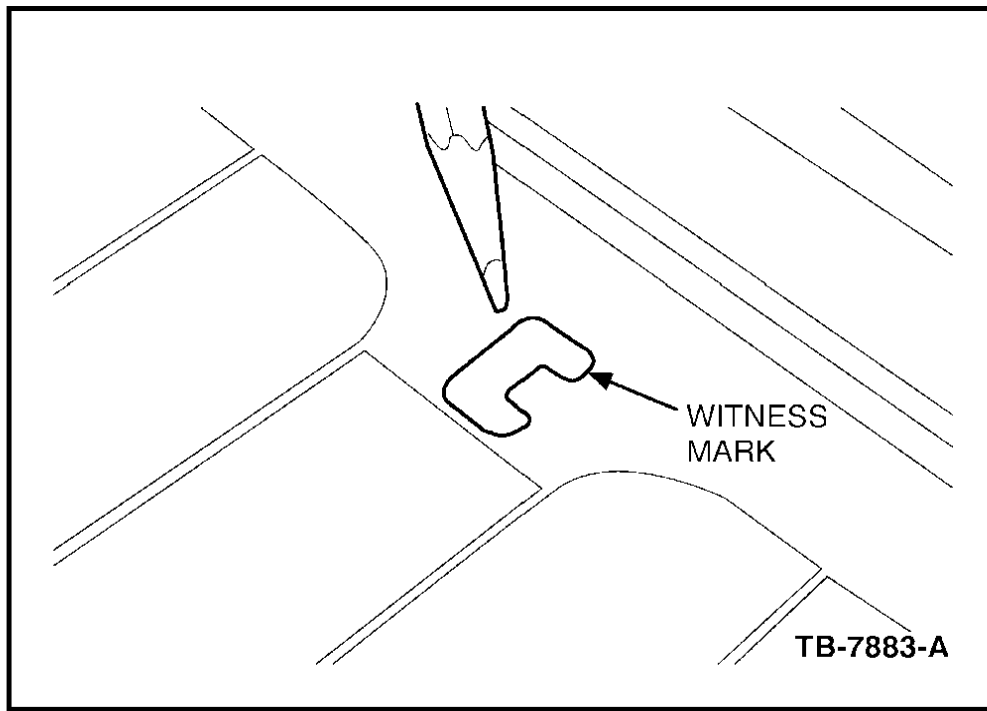

Figure 4
1. Place the replacement terminal over the original tab location making sure the conductive areas of the terminal will be on a good conductive area. Do not place the terminal tab foot on the original location which does not have conductive material (figure 4).
3. Place the soldering gun tip on the top of the terminal but not on the painted areas of the tab. Energize the soldering gun and watch for the painted area of the terminal to liquefy and change color. The paint should liquefy in approximately 25-45 seconds after heating. As soon as the paint color completely changes on either side of the terminal, de-energize the soldering gun and continue to hold the terminal in place with the soldering gun and pencil for an additional thirty (30) seconds.
4. Remove the soldering gun and pencil from the terminal. The terminal should be allowed to cool for another two (2) minutes before the wiring lead is attached to the terminal.